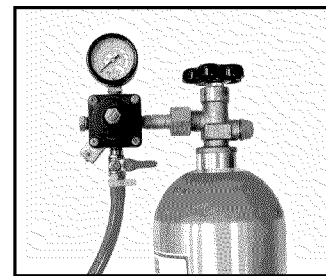

Fig. 12
7. Place the CO₂ cylinder and regulator inside one of the corners of the refrigerator. It is important that the cylinder be kept in an upright position to operate efficiently, using a chain or heavy cord if a wire rack is not provided (Fig. 12).